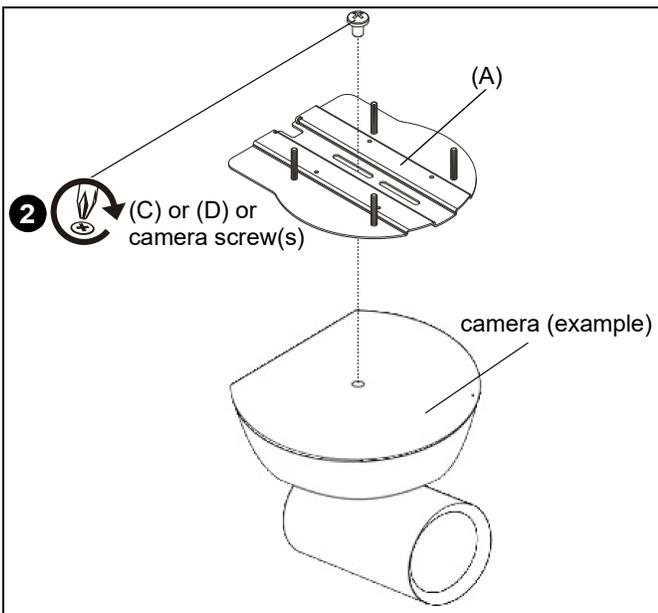

Figure 2
2. Use 1/4-20 x 3/8" Phillips pan machine screw (C), 1/4-20 x 5/8" Phillips pan machine screw (D) or screw(s) provided with camera (not included) to secure camera to camera plate (A). (See Figure 2)